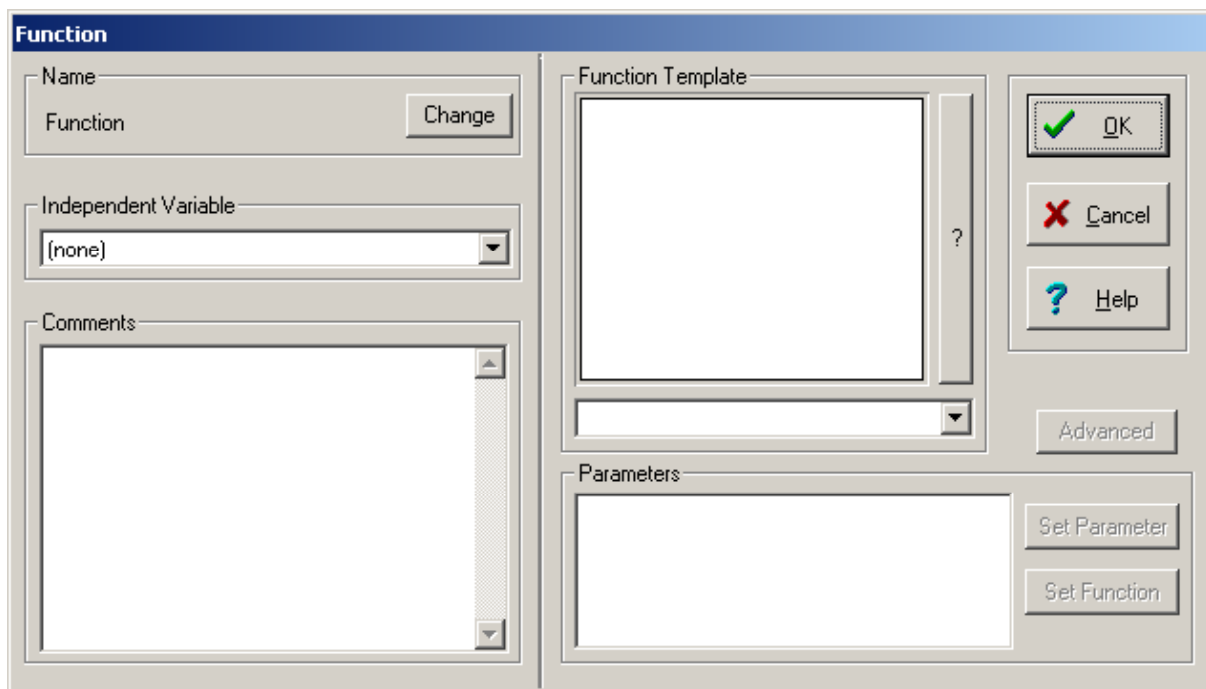

Figure 1.7 Function Selection Window
3. Select the **‘Function’** button in the **‘Add Component As’** panel to obtain the **‘Function’** selection window (Figure 1.7).
The **'Function'** selection window (Figure 1.7) is used to set the stage transfer function's independent variables and its associated parameters. DYMEEX uses this window as a standard throughout the Model Builder. Under the large white panel at the top right is a scroll button which gives access to the library of mathematical functions contained in DYMEEX. When a function is selected, its shape is illustrated on the screen. The **'Set Parameter'** button (in the Parameters panel) is used to set default and limiting values of the parameters for the function. The **'Set Function'** button allows a function parameter be replaced by another function. The **'Comments'** edit box should be used to record pertinent information such as a reference to the source of the data used to estimate parameter values or reasons for choosing this particular function shape. The **'?'** button provides a detailed description of the selected function, e.g., providing the equation for the function in mathematical notation and explaining the role of each parameter.